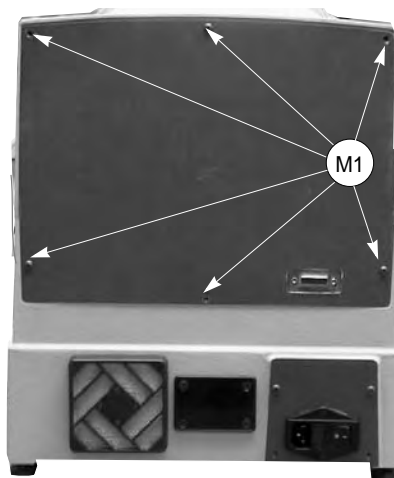

Fig. 45
- 2) unscrew the 6 (M1) screws that secure the back panel (fig. 45) thus removing it.